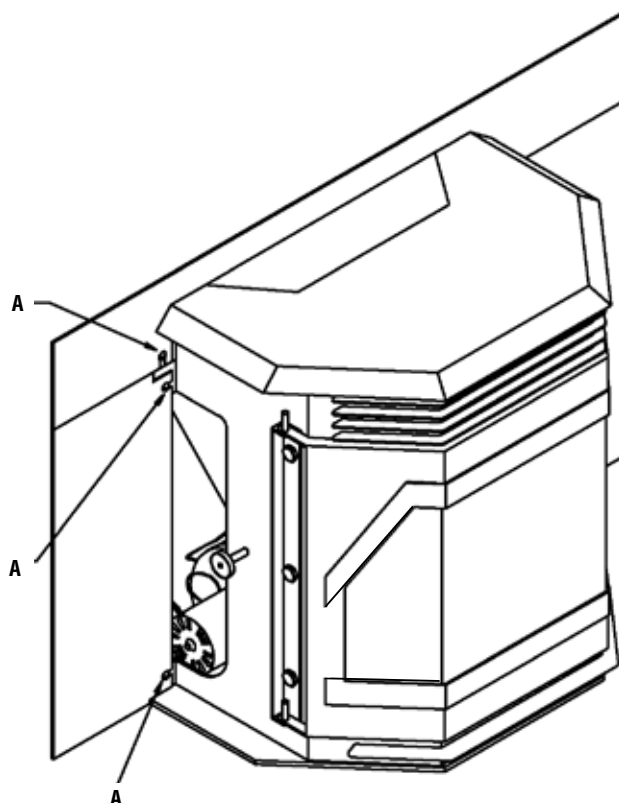

Figure 11A
1. Remove the side doors (see **Page 23**) to access the surround mounting brackets. Remove the speed nuts from the parts bag found in the firebox. Install the six speed nuts (with the flat surface forward) on the six surround mounting bracket holes, three on each side of the insert. A flat-bladed screwdriver may help in installing the nuts. See the expanded view in **Figure 11A**.
2. Screw the six 1/4" truss head screws partially into the speed nuts (see A in **Figure 11A**).